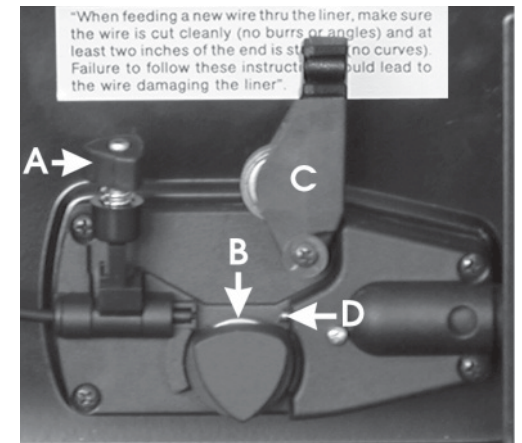

Fig.3
(Ref. Figs. 3)
- Reposition the pressure roller bracket (C, FIG.3) and plastic knob (A, Fig.3) and tighten slightly.